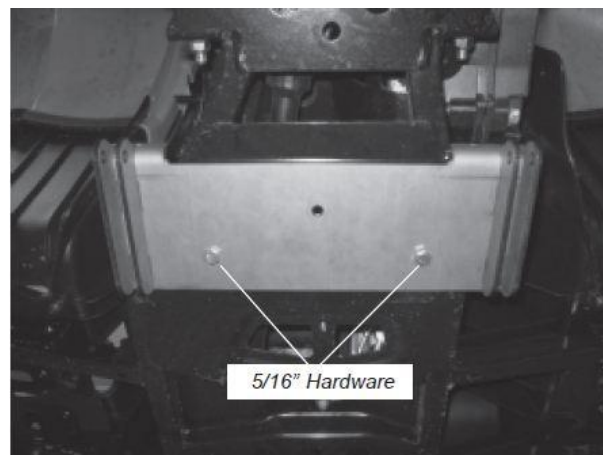

Figure 4
- Attach the plow mounting bracket to the factory skid plate using two $\frac{5}{16}$ "-18x1" hex head bolts (D1), two $\frac{5}{16}$ " flat washers (D2) and two 5/16-18 lock nuts (D3) (Figure 4).